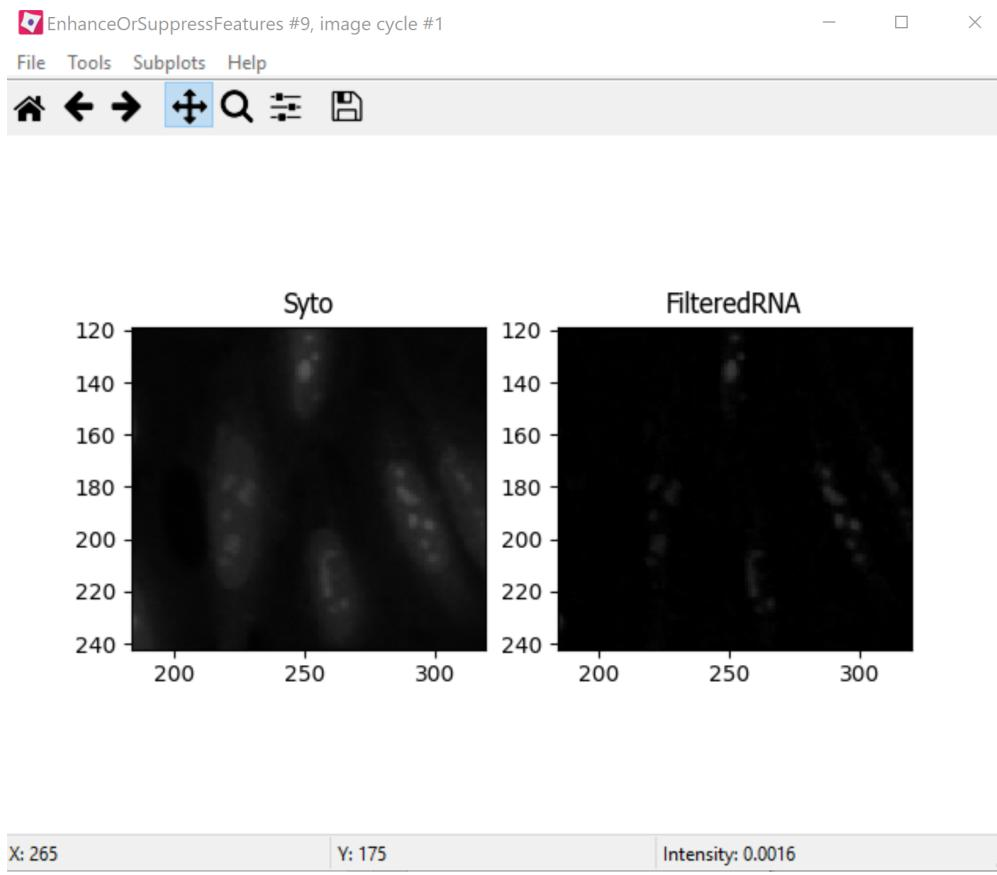

Figure 6: Enhancing the Syto image allows you to isolate nucleoli against the nucleoplasmic background signal.
- EnhanceOrSuppressFeatures is a module that helps enhance particular parts of an image- in this case, punctate objects or ‘Speckles’. By specifying the feature size, you can enhance different parts of the object. As we are looking for nucleoli, we apply this to the RNA channel (Syto) image, and call the output ‘FilteredRNA’. (See Fig 6 below)